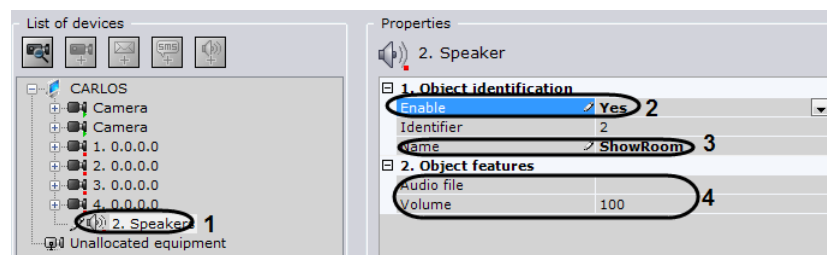

Fig. 6.3—22 Configuring a Speaker object
1. In the list of devices, highlight the **Speaker** object (Fig. 6.3—22, 1) which needs to be configured.
2. Activate the **Speaker** object (see Fig. 6.3—22, 2) by selecting **Yes** in the **Enable** list.